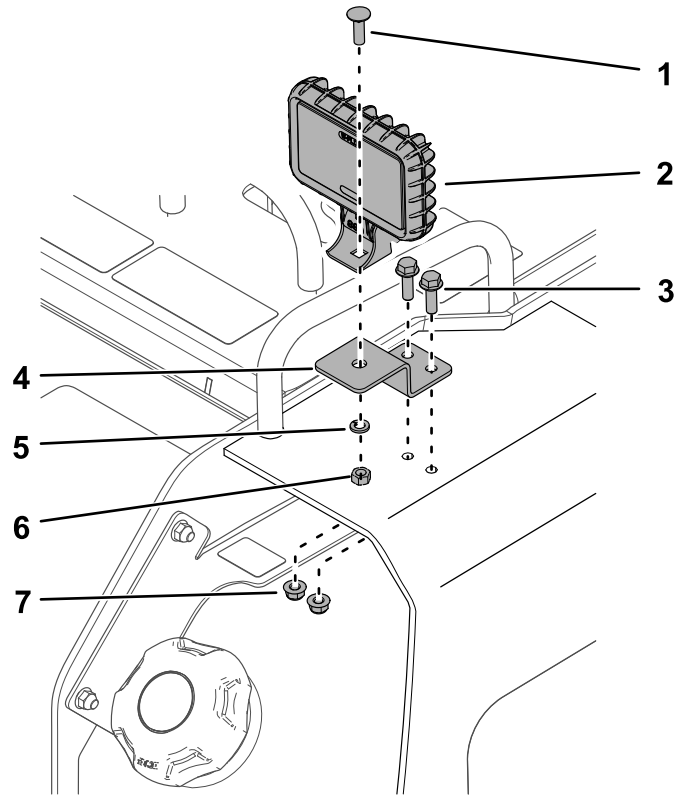

Figure 5
4. Install the right light bracket to the tower plate using 2 bolts (5/16 x 1 inch) and 2 nuts (5/16 inch) as shown in Figure 5.
5. Remove the bolt and nut from the other light and use them to secure the light to the bracket (Figure 5).